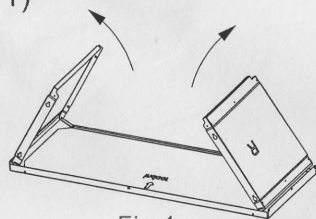

Fig.1
- Open the LEFT COVER and RIGHT COVER as shown below.(See Fig.1)